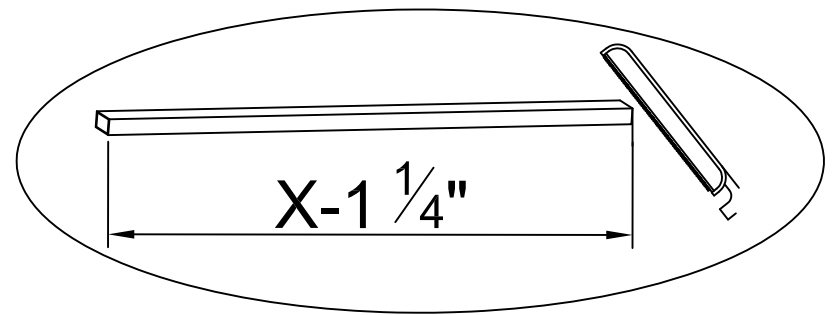

Fig.25
Using a hacksaw cut the Door Threshold bar (11) to fit distance measured between the large fixed glass and small fixed glass. Remove any sharp edges or burrs after cutting Door Threshold bar (11). See Fig.25 for details.